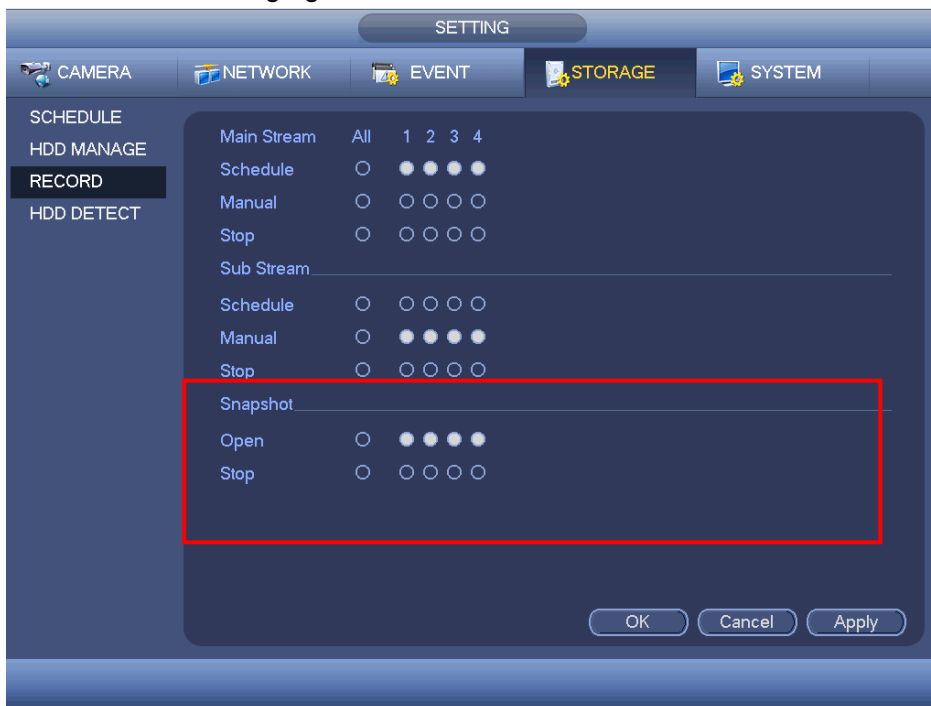

Figure 4-176
- On the preview interface, right click mouse and then select Manual->Record, or in the main menu, from Setting->Storage->Record, check the box to enable snapshot function of corresponding channels. See Figure 4-176.